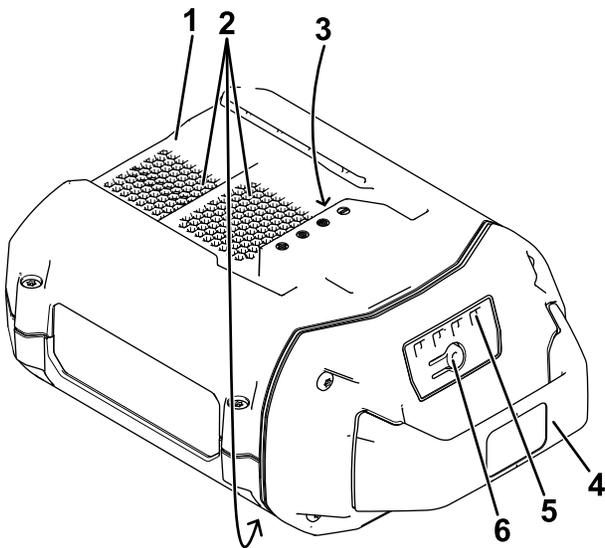

Figure 2
2. Line up the cavity in the battery pack (Figure 2) with the tongue on the charger.